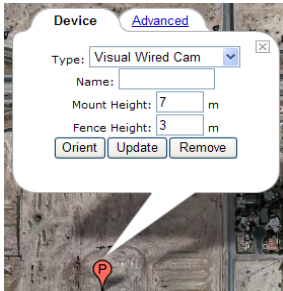

Figure 2: *SightSensor Device specification menu*
- Left-click the camera icon to pop up the Device Menu as shown in Figure 2.